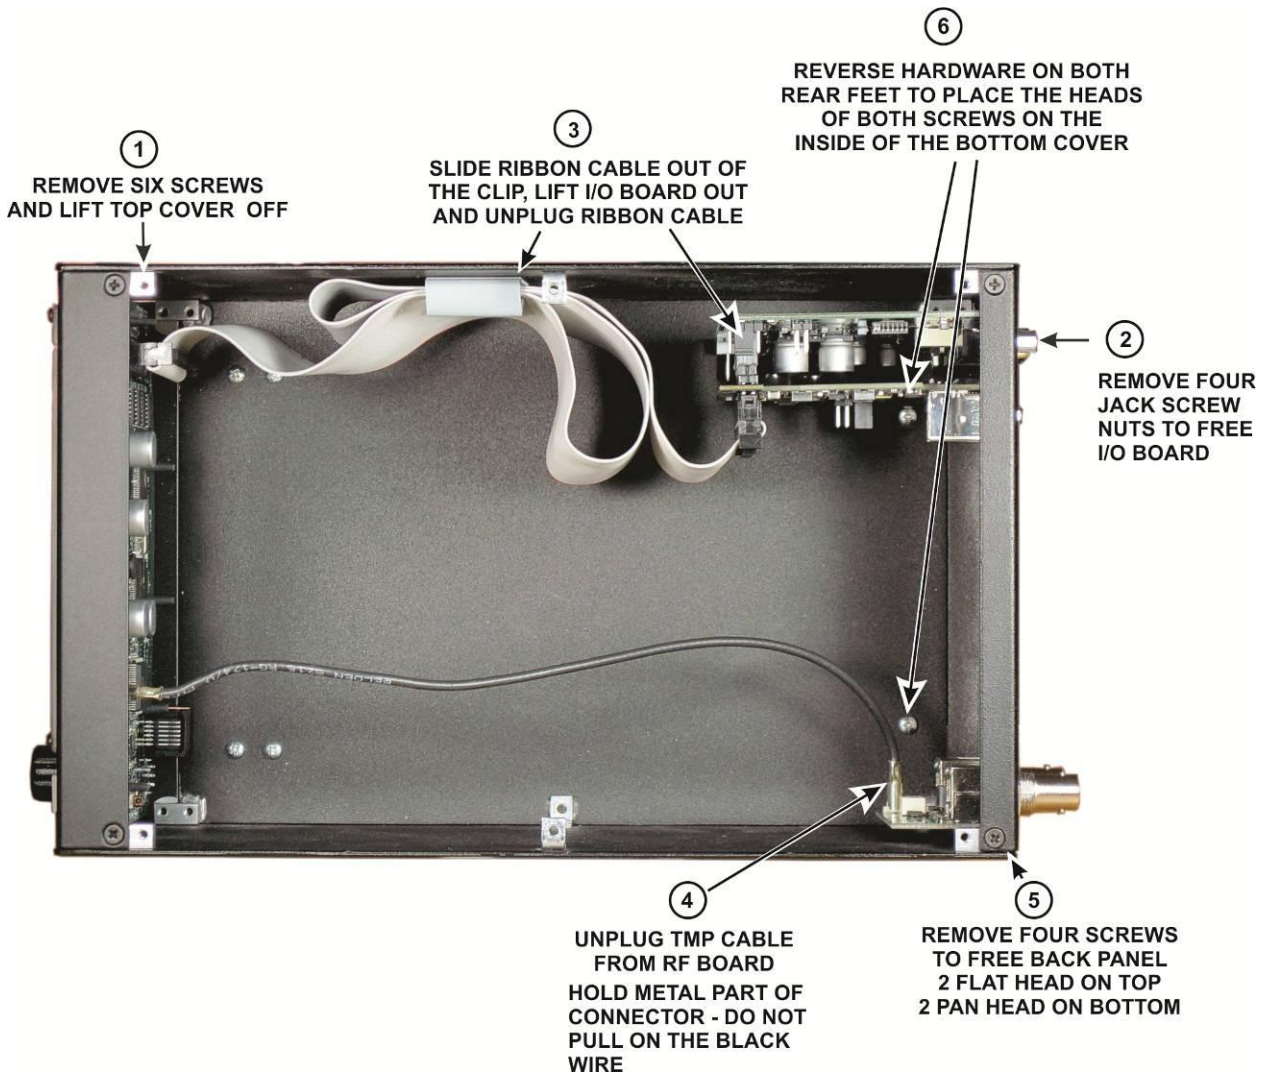
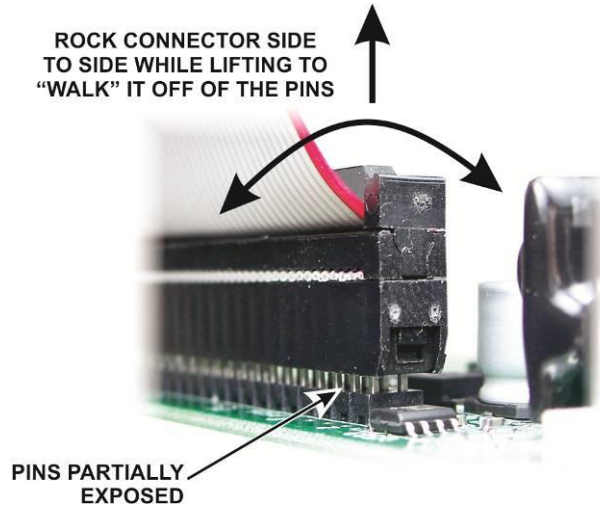
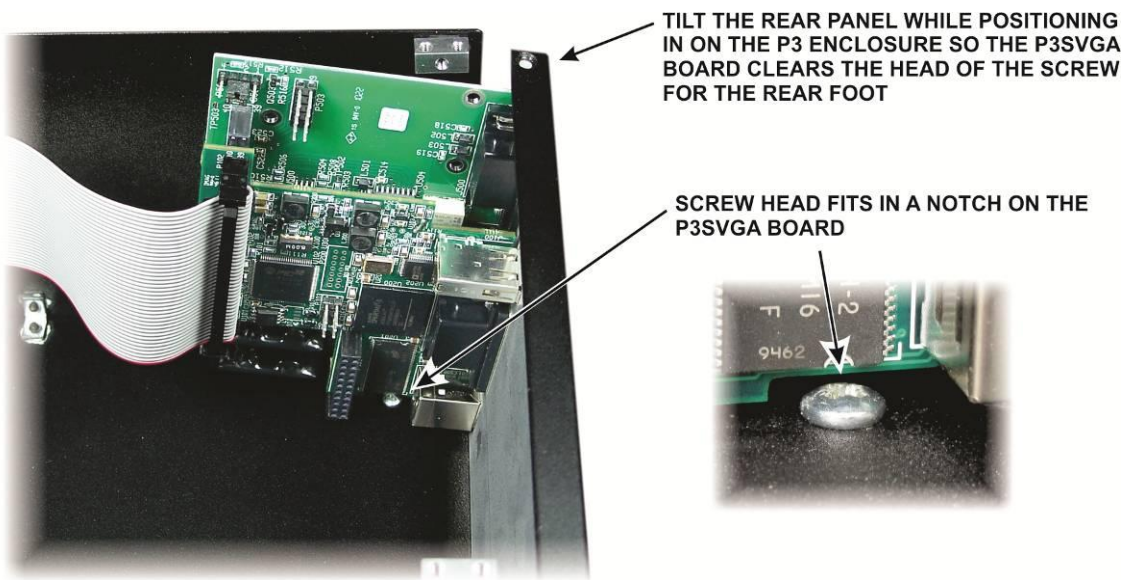

Figure 2. Preparing the P3 to Install the P3SVGA Board.
Figure 3. Unplugging the Ribbon Cable from the I/O Board.
Figure 9. Replacing the Rear Panel on the P3.
- Remove the six screws to free the top cover (Figure 2 (1)) and lift the cover off. There is a slot at one end that you can use to lift the cover once it is free.
- Remove the four jack screw nuts and lock washers to free the I/O board (Figure 2 (2))
- ☐ Lift the I/O board out of the P3 and unplug the ribbon cable (Figure 2 (3)). Take care not to damage the board. Hold the board while working the connector side to side to “walk” it off of the pins as shown in Figure 3.
- ☐ Unplug the TMP coaxial cable from the RF board (Figure 2 (4)). This is a friction-fit connector. Do not pull on the black coaxial cable. Grip and pull only on the metal connector.
- ☐ Remove the four screws holding the rear panel in place (Figure 2 (5)) and lift the rear panel off of the P3.
- ☐ Remove and reverse the mounting hardware for both rear feet as shown in Figure 2 (6). Install the hardware as shown in Figure 4.
- Replace the rear panel assembly on the P3 as shown in Figure 9. Tilt the assembly so the P3SVGA board does not strike the screw head for the rear foot. The screw head fits in a notch on the P3SVGA board. Secure the rear panel assembly with the screws you removed earlier (Figure 2 (5)).
- Reconnect the TMP cable to the rear panel RF board (Figure 2 (4)).
- Replace ribbon cable in the clip on the side panel (Figure 2 (3)). It is important that the excess cable not be allowed to float freely in the P3 where it may be close to the RF board to avoid digital interference on the P3 display.